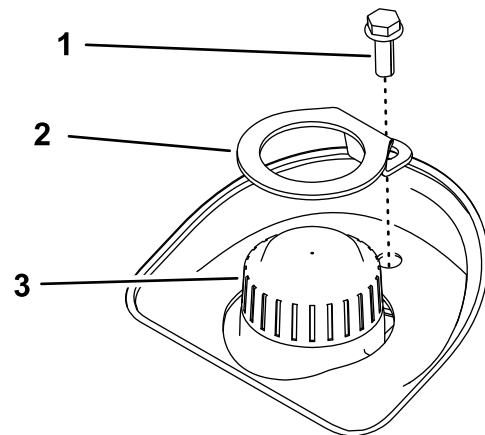

Figure 45
5. If the oil level is low, remove the cap lock and cap from the top of the expansion tank (Figure 45), and add enough of the specified hydraulic fluid to raise it to the proper level.